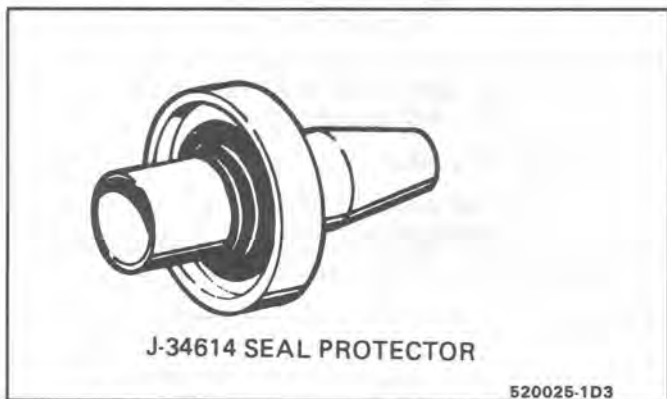

Fig. 28 Lip Seal Installed on Seal Protector
3. Attach the seal to the seal remover and installer J-23128-A and dip the seal in clean 525 viscosity refrigerant oil to coat the seal. Install seal protector J-34614 in the seal, place over shaft and push seal in place with a rotary motion (Fig. 28).